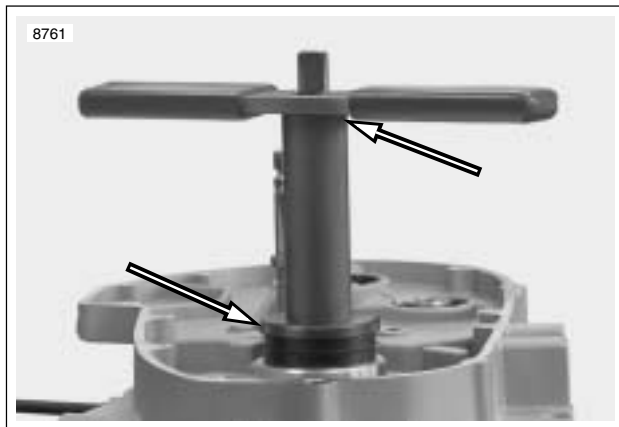

**Figure 3-154. Crankcase Fasteners**
7. See Figure 3-154. Assemble crankcase halves together.